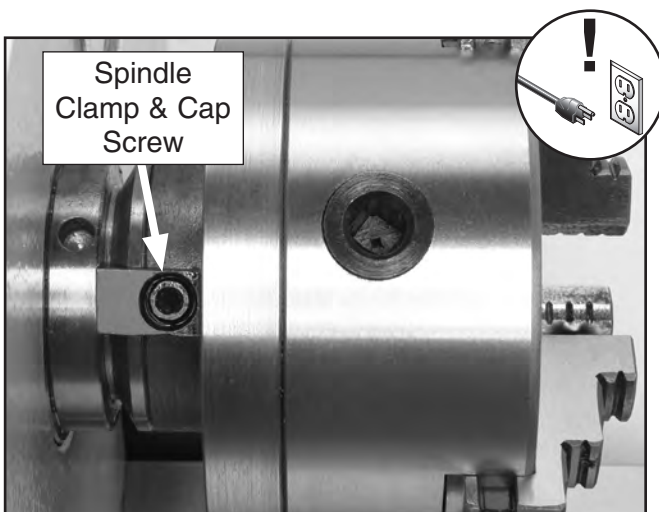

Figure 17. Spindle clamp and cap screw securing chuck/faceplate to spindle.
- Remove both spindle clamps from behind the chuck or faceplate (see **Figure 17**).